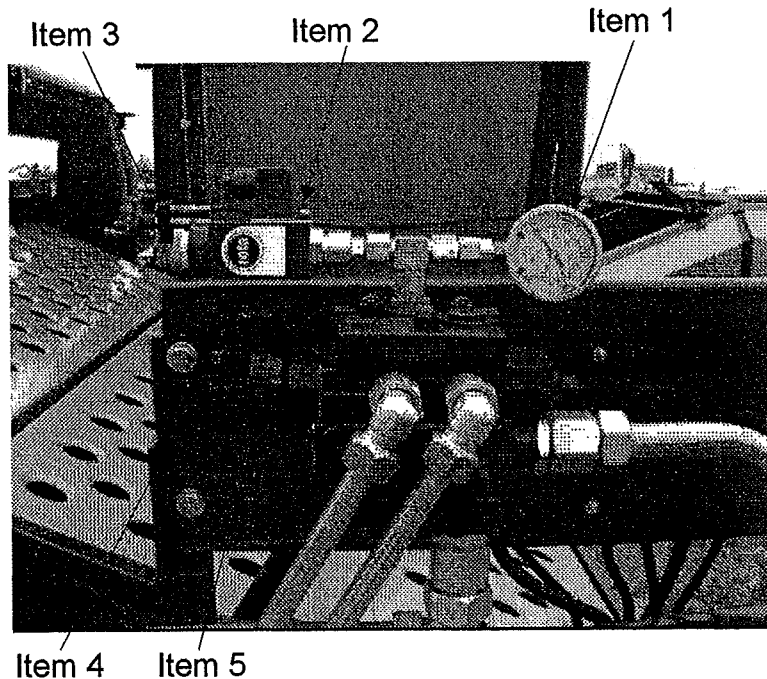

Fig 7.19
The speed of the Galaxy unit is controlled by a flow control valve mounted on the rear left hand side of the machine.(Fig 7.19). Turning the knob will increase or decrease the speed. When the Galaxy unit is fitted the electrical connections for auto reversing are disconnected. This is achieved by removing the plug item 4 in Fig 7.19.
Roller speed is controlled by a knob situated on the valve block at the rear left hand side of the machine. (Fig 7.19 item 5) Turning clockwise increases the speed of the rollers. Turning anti-clockwise decreases the speed of the rollers.
The proclean unit is driven by two hydraulic motors and if over loaded or blocked is designed to go into reverse drive for a short period to clear itself. The operating pressure of the proclean can be seen in the gauge (Fig 7.19 item 1). The reverse operation is engaged by a pressure switch sensing the operating pressure in the drive motors (Fig 7.19 item 2). This pressure switch is adjustable and for normal work should be set at 20 bar above normal operating pressure. The pressure switch can be adjusted by rotating the knob on the end (Fig 7.19 item 3) and reading the setting on the scale. This setting is factory set at 70 bar. Normal operation of the proclean is 50 to 55 bar. This setting is ideal for working on stony land. When working in heavy land with a lot of clod, then it may be necessary to increase the reversing switch pressure setting.